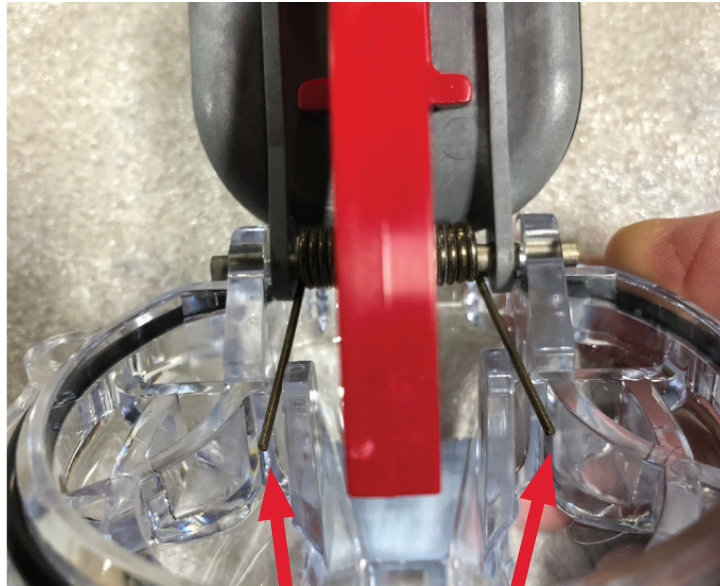

Fig 2.3
1. Release each of the two spring legs from the location tabs - this will remove the tension from the spring. See Fig.2.3 above.